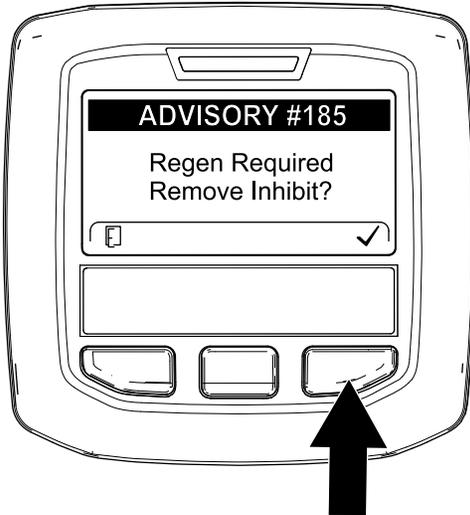

Figure 37
**Note:** If INHIBIT REGEN is set to ON, the InfoCenter displays ADVISORY #185 (Figure 37). Press button 3 to set inhibit regeneration setting to OFF and continue with the reset regeneration.